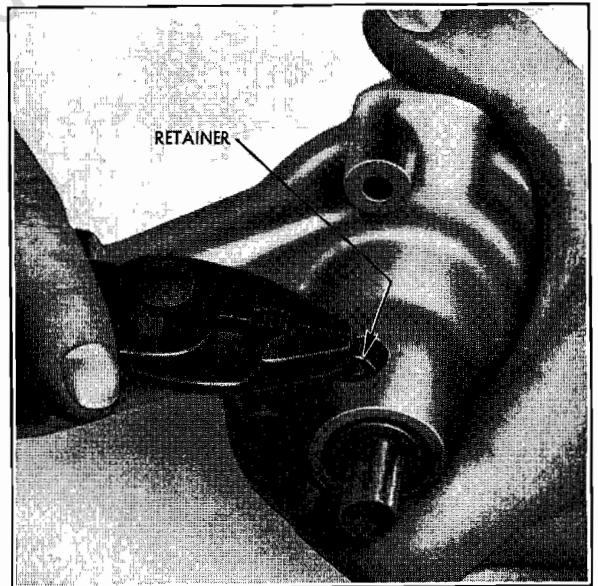
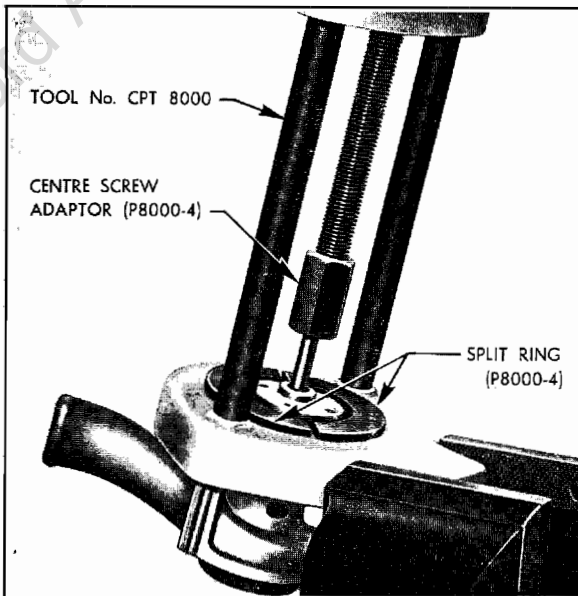

Fig. 2
Fig. 1
2. Remove the pump pulley hub from the shaft, using adaptors details a and b as shown in Fig. 1. Do not omit adaptor detail b which pushes against the centre of the shaft. Lever the bearing retainer clip out of the slot in the housing. (Fig. 2)